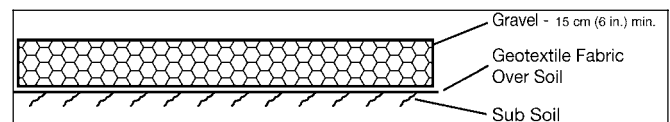

FIGURE 11. Gravel pad around stock tanks and nose pumps.
- 15 cm (6 in.) depth of gravel over a geotextile fabric (*Figure 11*)